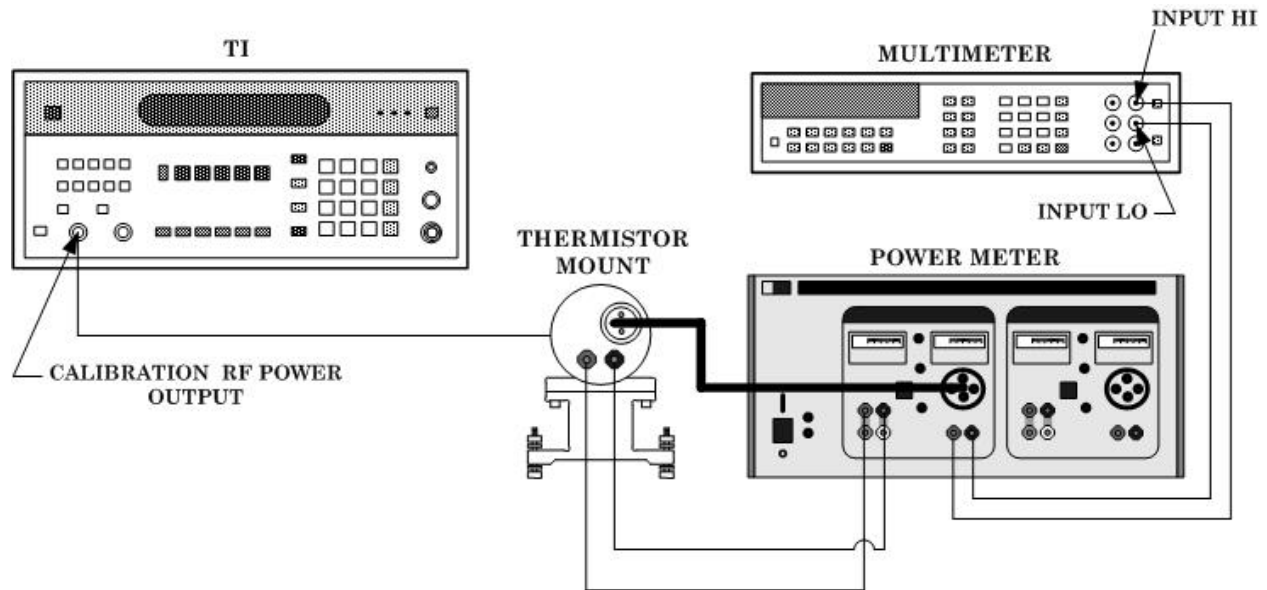

Figure 16. Power reference equipment hookup.
- (1) Connect equipment as shown in figure 16.
(6) Connect equipment as shown in figure 16.
(7) Press multimeter keys as listed in (a) through (e) below: